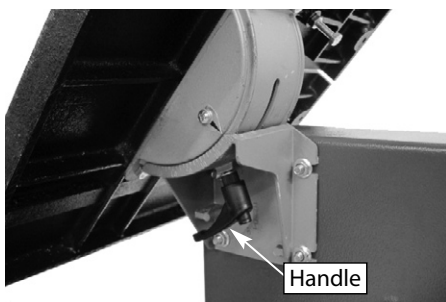

Figure 18 - Tilting the table.
1. To tilt the table, loosen the handle on the table trunnion, set the table to the required angle and tighten the handle again (see Figure 18).